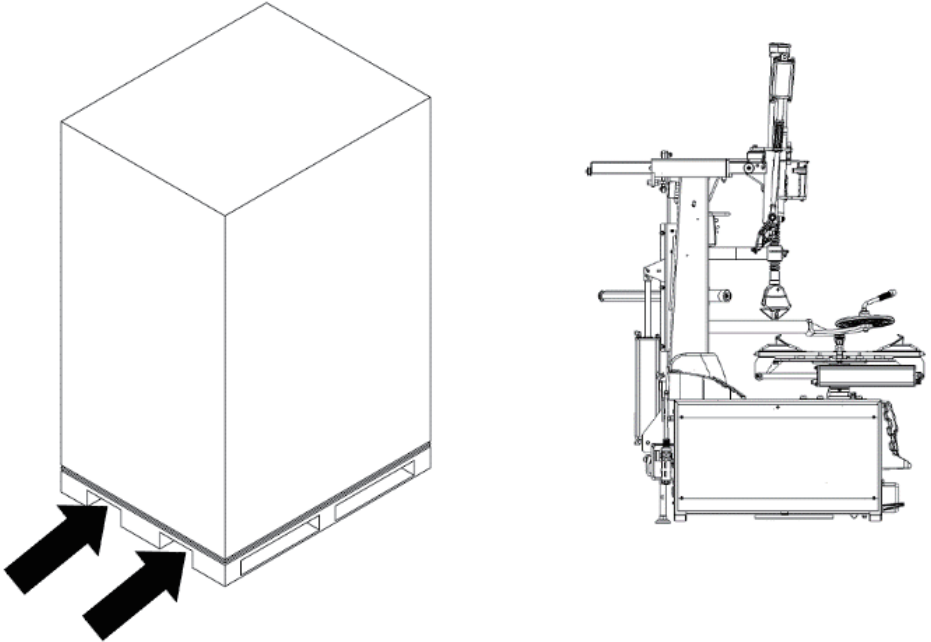

图 3-1
- The packaged tire changer shall be handled using a properly loaded forklift with the fork inserted as shown in Fig.3.1